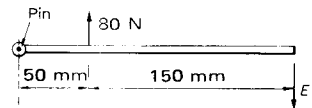

Fig. 2.46
3. Fig. 2.46 shows a simple lever. Find the effort  $E$  needed to balance the load of 80 N. What is the force on the pin?